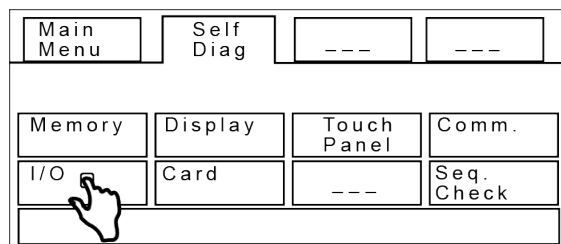

Figure 40. Self Diag. Screen
- e. On the Self Diag screen touch the **I/O** button (see Figure 40)
1. Enter the FCC Self Diag. screen (see Figure 40) by following the steps in “Accessing FCC Manual Control” above